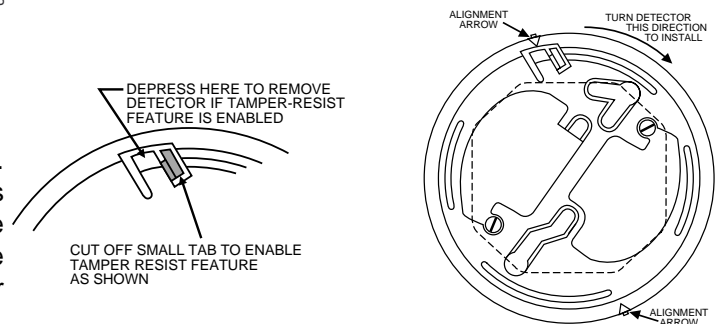

Figure 4. Mounting Bracket Detail
Both models include a plug-in screw terminal block and a mounting bracket. The terminal block allows the detector to be disconnected from the system without loss of power to the remaining loop. The mounting bracket includes a tamper resistant capability that, when enabled, prevents detector removal from the base without the use of a tool (Figure 4).
Models SD300(A) and SD300T(A) are supplied with a mounting bracket (Figure 4) that permits mounting the detector to:
1. Mount adapter bracket to junction box as shown in Figure 4. Enable the tamper resist feature, if desired.
5. Attach the detector to the mounting bracket. Alignment marks on the detector should be aligned with the arrows on the mounting bracket. Push the detector against the adapter bracket and rotate it clockwise to secure it in place (Figure 4). A mounted detector is shown in Figure 1.